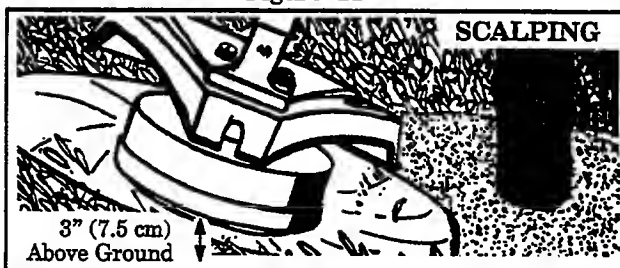

Figure 12
2. **SCALPING** – Figure 12. The scalping technique removes unwanted vegetation. Hold the bottom of the trimmer head about 3" (7.5 cm) above the ground and at an angle. Allow the tip of the line to strike ground around trees, posts, monuments, etc. *This technique increases line wear.*